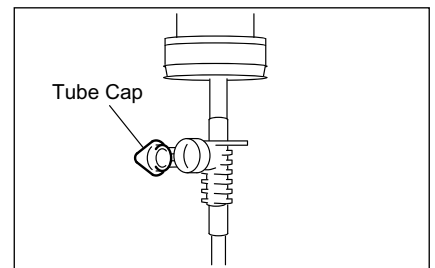

Fig.16
- (3) Open the tube cap to supply air into the bottle. (Fig.16)
- (4) Open the tube clamp.